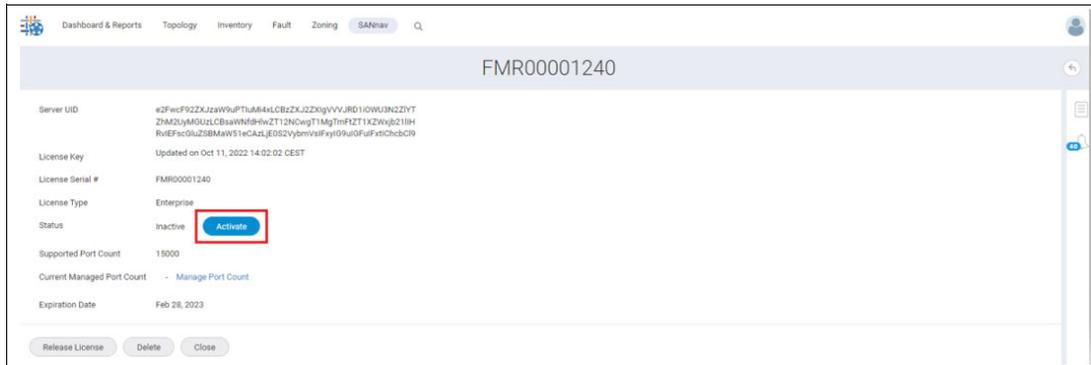

Figure 4-33 Activating a license key
5. Click **Activate** to activate the license, and then click **OK** to continue activation, as shown in Figure 4-33.